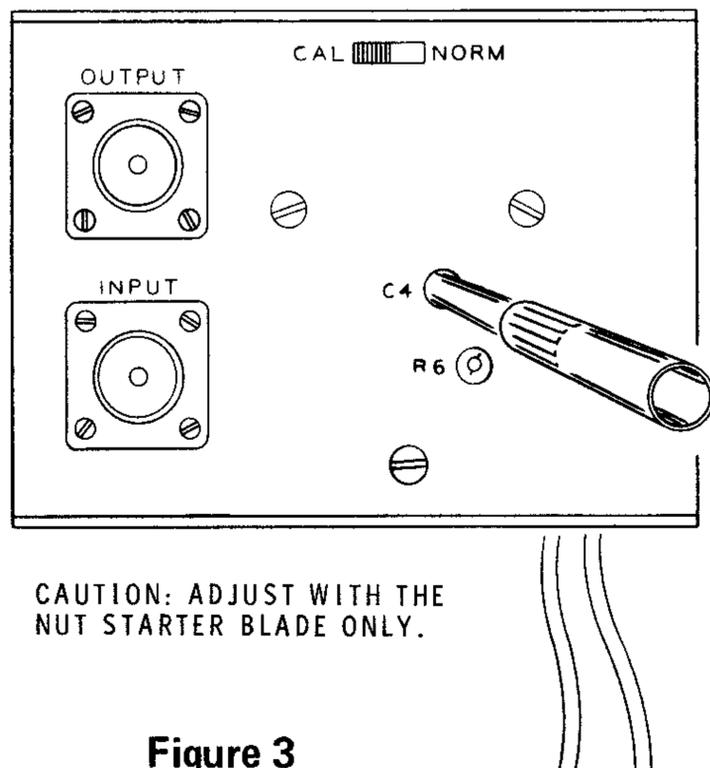

Figure 3
- 2.( ) Connect a 50-ohm noninductive load, such as the Heathkit Antenna, to the remote chassis OUTPUT jack. (See Figure 3 on Page 14).
- 3.( ) Connect the transmitter output to the INPUT jack on the remote chassis. (See Figure 3.)
- 6.( ) Set the CALIBRATION switch, on the rear of the remote chassis, to NORM (see Figure 3).
- 12.( ) Refer to Figure 3, and adjust SWR NULL trimmer C4, through the rear of the remote chassis, with the alignment tool (nut starter) for the best null or greatest dip of the meter needle. This reading should be at or near zero. NOTE: Do not use any metal tool other than the nut starter blade to make these adjustments.